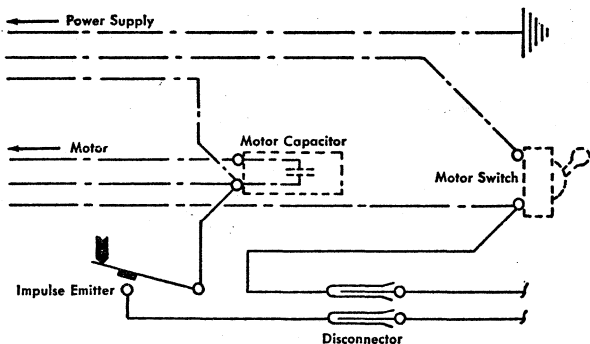

Figure 3. AC Installation Wiring Diagram
7. Mount the impulse emitter to the power frame so it can be actuated by the ribbon lift actuating link on each type stroke. Connect it to the motor switch, and the capacitor (Figure 3).